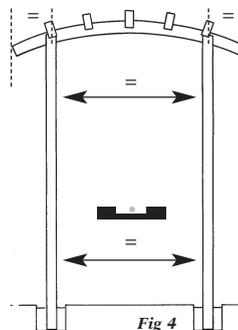

Fig 4
8. Ensure the arch is equally spaced, level and vertical (see Fig.4)